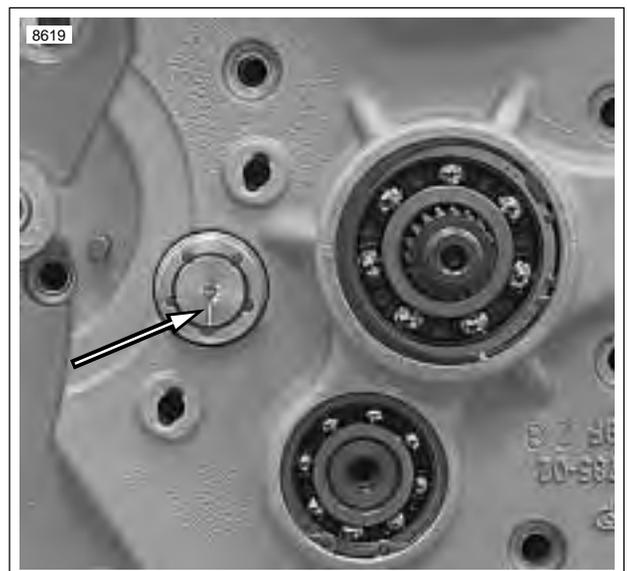

Figure 6-52. Scribed Line on Shifter Drum at 6 O'clock (Transmission in 4th Gear)
15. See Figure 6-52. Place transmission in 4th gear. The scribed line should now be at the 6 o'clock position.